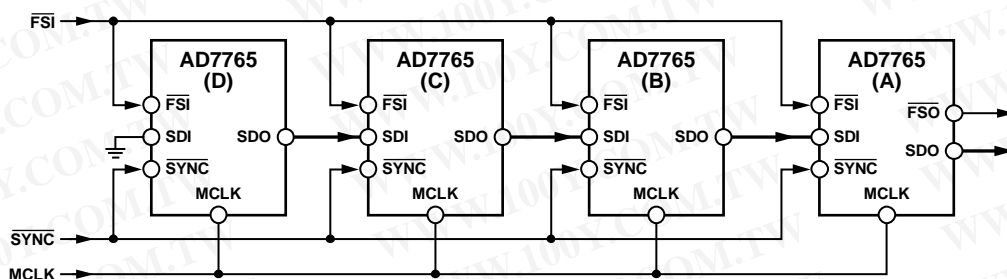

Figure 39. Daisy Chaining Four Devices in Decimate 128× Mode Using a 40 MHz MCLK Signal
The block diagram in Figure 39 shows how to connect devices to achieve daisy-chain functionality. Figure 39 shows four AD7765 devices daisy-chained together with a common MCLK signal applied.
Referring to Figure 39, note that the SDO line of AD7765 (A) provides the output data from the chain of AD7765 converters. Also, note that for the last device in the chain, AD7765 (D), the SDI pin is connected to ground. All of the devices in the chain must use common MCLK and SYNC signals.